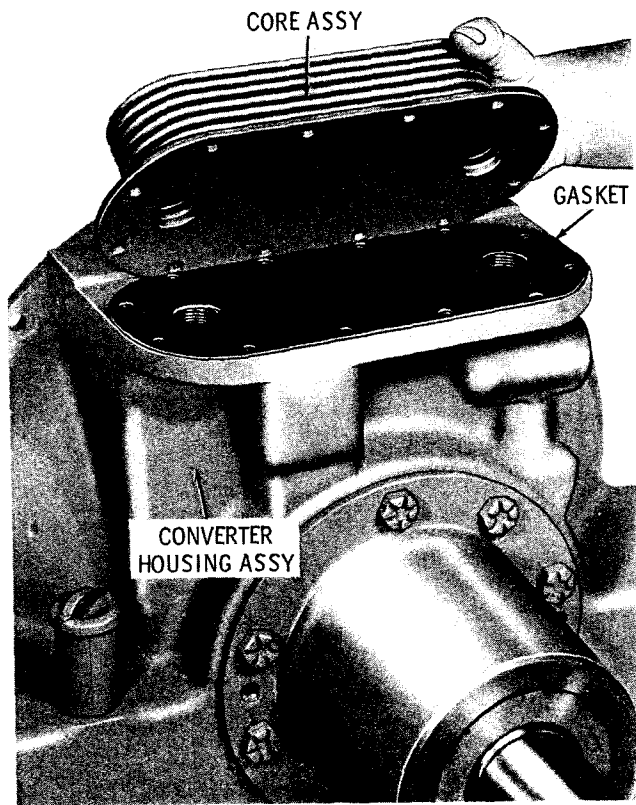

Fig. 5-2. Removing oil cooler core assembly
a. Removing Oil Cooler. Remove 12 bolts from the oil cooler cover (fig. 5-1). Remove the cover and gasket. Remove the core assembly and gasket (fig. 5-2).